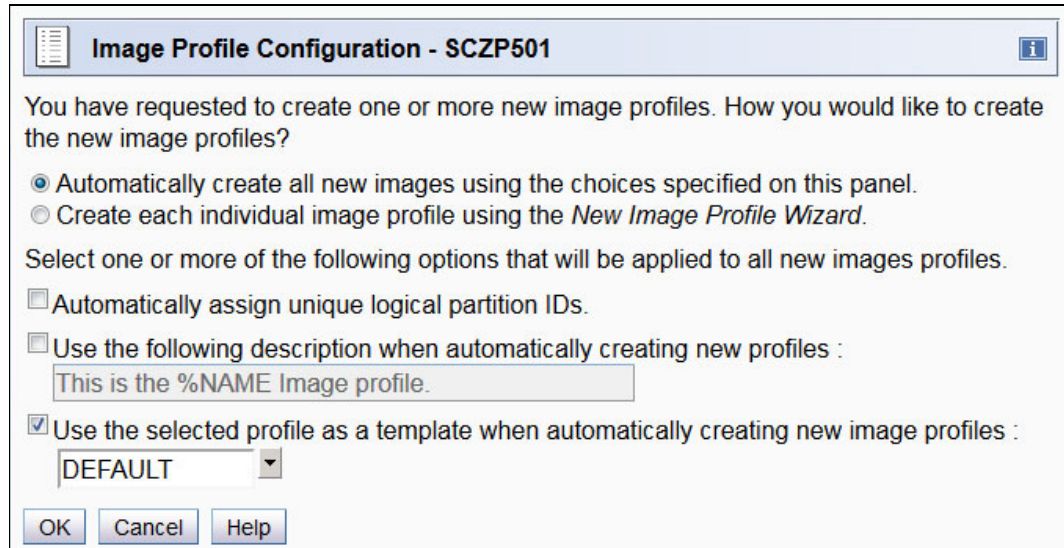

Figure 7-96 HMC - Image Profile automatic build options
10. The HMC retrieves any Image profiles that match the LPAR names in the IOCDS that was selected. It also allows you to create new Image profiles for those that it cannot retrieve. In the example, the last option is selected. Click **OK** (Figure 7-96 on page 417).